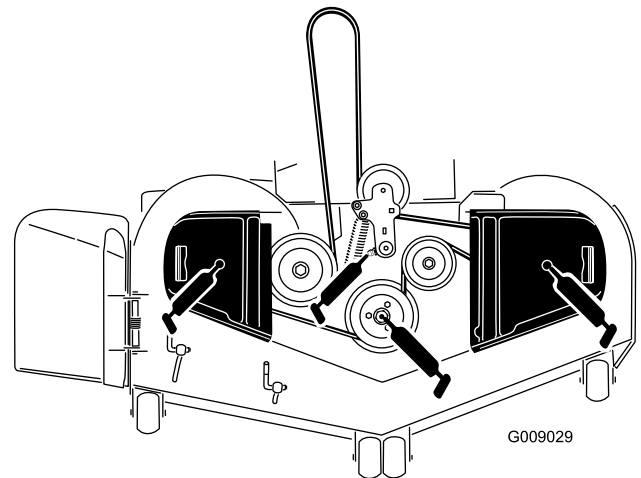

Figure 40
3. Grease the mower deck idler pulley pivot until grease come out the bottom (Figure 40).
4. Grease the fittings on the top of the 3 spindle bearings until grease come out the bottom (Figure 40).
5. Grease the drive belt idler arm (Figure 40).